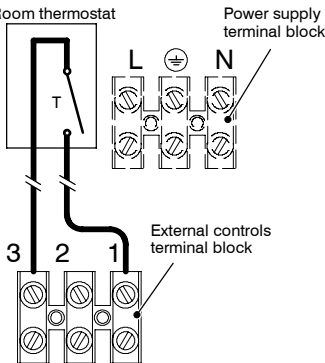

Fig. 6.14
- 8 Connect the room thermostat between terminals 1 and 3 as shown in Fig. 6.14. **Do not connect live wires to terminals to which the room thermostat must be connected.**